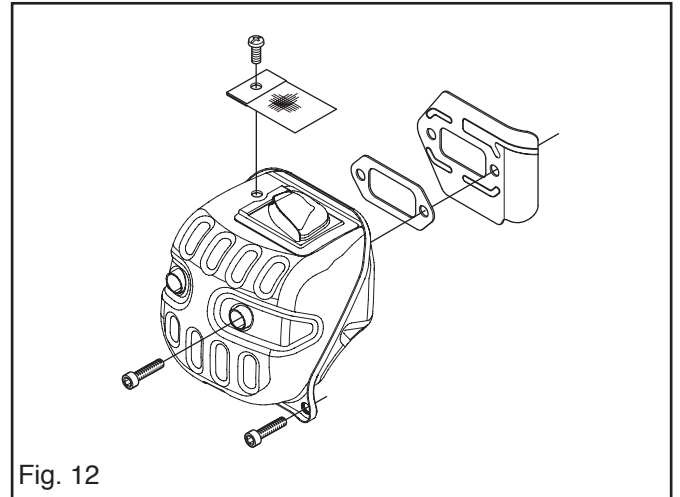

Fig. 12
1. Remove the two lower M5 bolts and the muffler's two M6 bolts. See fig. 12.
2. Remove the gasket and cooling plate. See fig. 12.
3. If the saw is fitted with a spark-arrester, remove it. See fig. 12.
2. If the saw is fitted with a spark-arrester, refit it. See fig. 12.